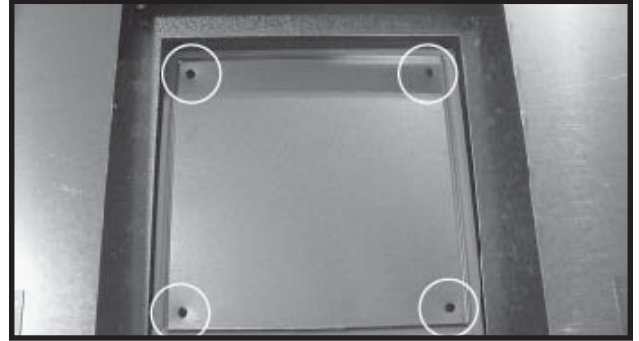

Figure 17 - Place Outer Cover Plate on Top of Appliance
- m. Place the outer cover plate on the appliance top and replace the four screws that hold the outer cover plate in place. See Figure 17.